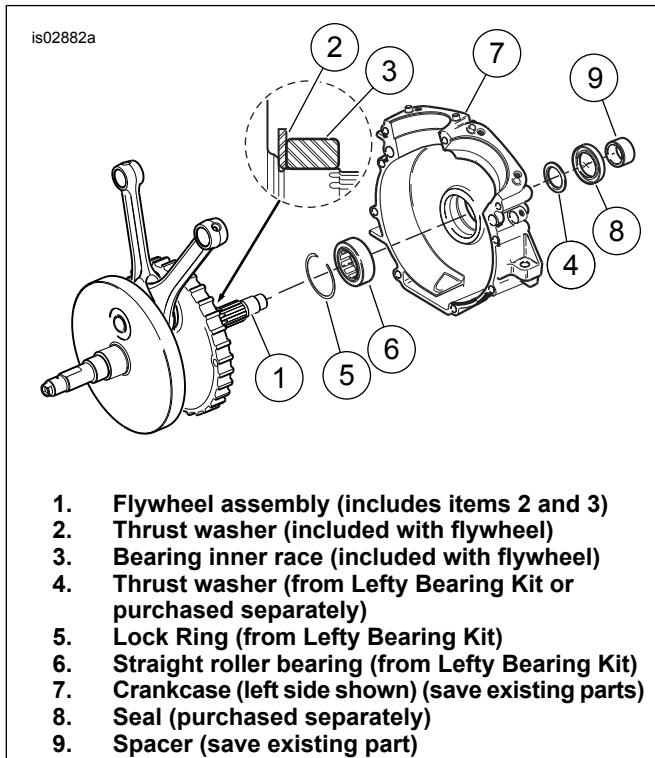

Figure 1. Bearing and Thrust Washer Installation
The inner bearing race and one thrust washer will be discarded from the *SE Lefty Bearing Kit* (See Figure 1), since the new flywheel comes with a race and thrust washer installed.
For 2002 and earlier models or models with Timkin® tapered roller bearing conversion, see **Thrust Washer and Inner Bearing Race Removal** and remove the inner bearing race (30) and thrust washer (2) race from flywheel (see Figure 1).
4. **Stock Crankcases:** For 2003 - Later models, refer to the service manual for removal and installation of the main bearing in the left crankcase half from the *SE Left Bearing Kit*. **SE Crankcases:** Use thrust washer (4), Part Number 8972 purchased separately when installing flywheel in crankcase.
The inner bearing race and on thrust washer will be discarded from the *SE Lefty Bearing Kit* (see Figure 1), since the new flywheel comes with a race and thrust washer installed.
For 2002 and earlier models or models with Timken tapered roller bearing conversion, see **Thrust Washer and Inner Bearing Race Removal** and remove the inner bearing race (30 and thrust washer (2) race from flywheel (see Figure 1).